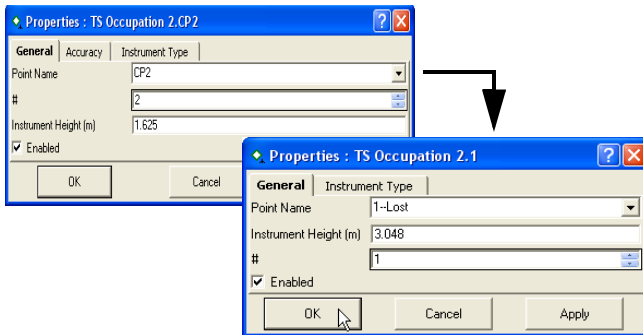

Figure 5-15. Edit Point Name
2. On the *Properties* dialog box and the *General* tab, edit the point name and click **OK** to save the information (Figure 5-15).